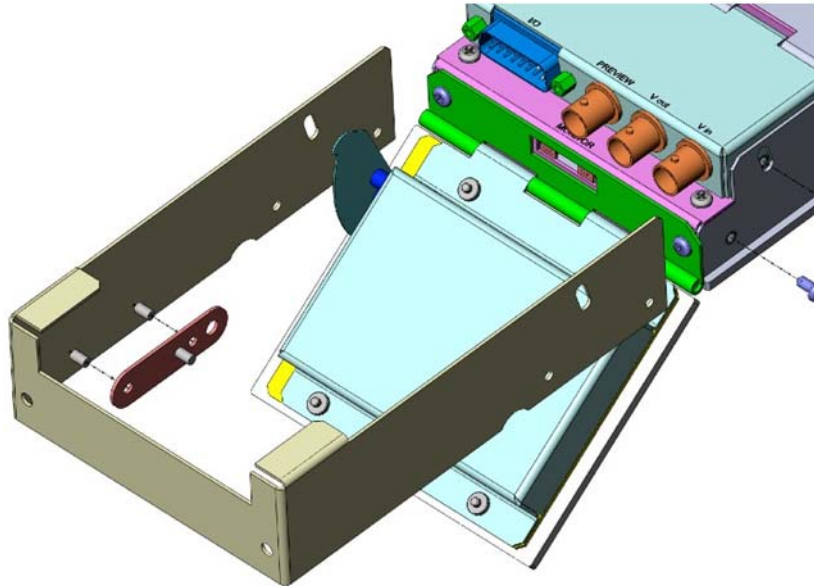

Fig. 3-7: CHRCP-LCD1 Installation Step #2
- 2 Attach the monitor frame to the sides of the Control Panel, using three screws on each side (Figure 3-7).